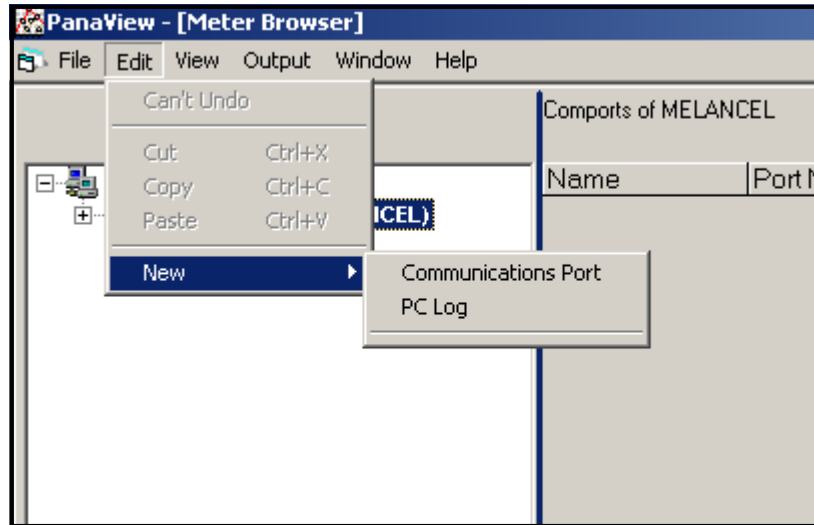

Figure 17: The Edit Menu
3. Click on the "New" menu option to select it, and a submenu opens with two choices on it (see *Figure 17* below).